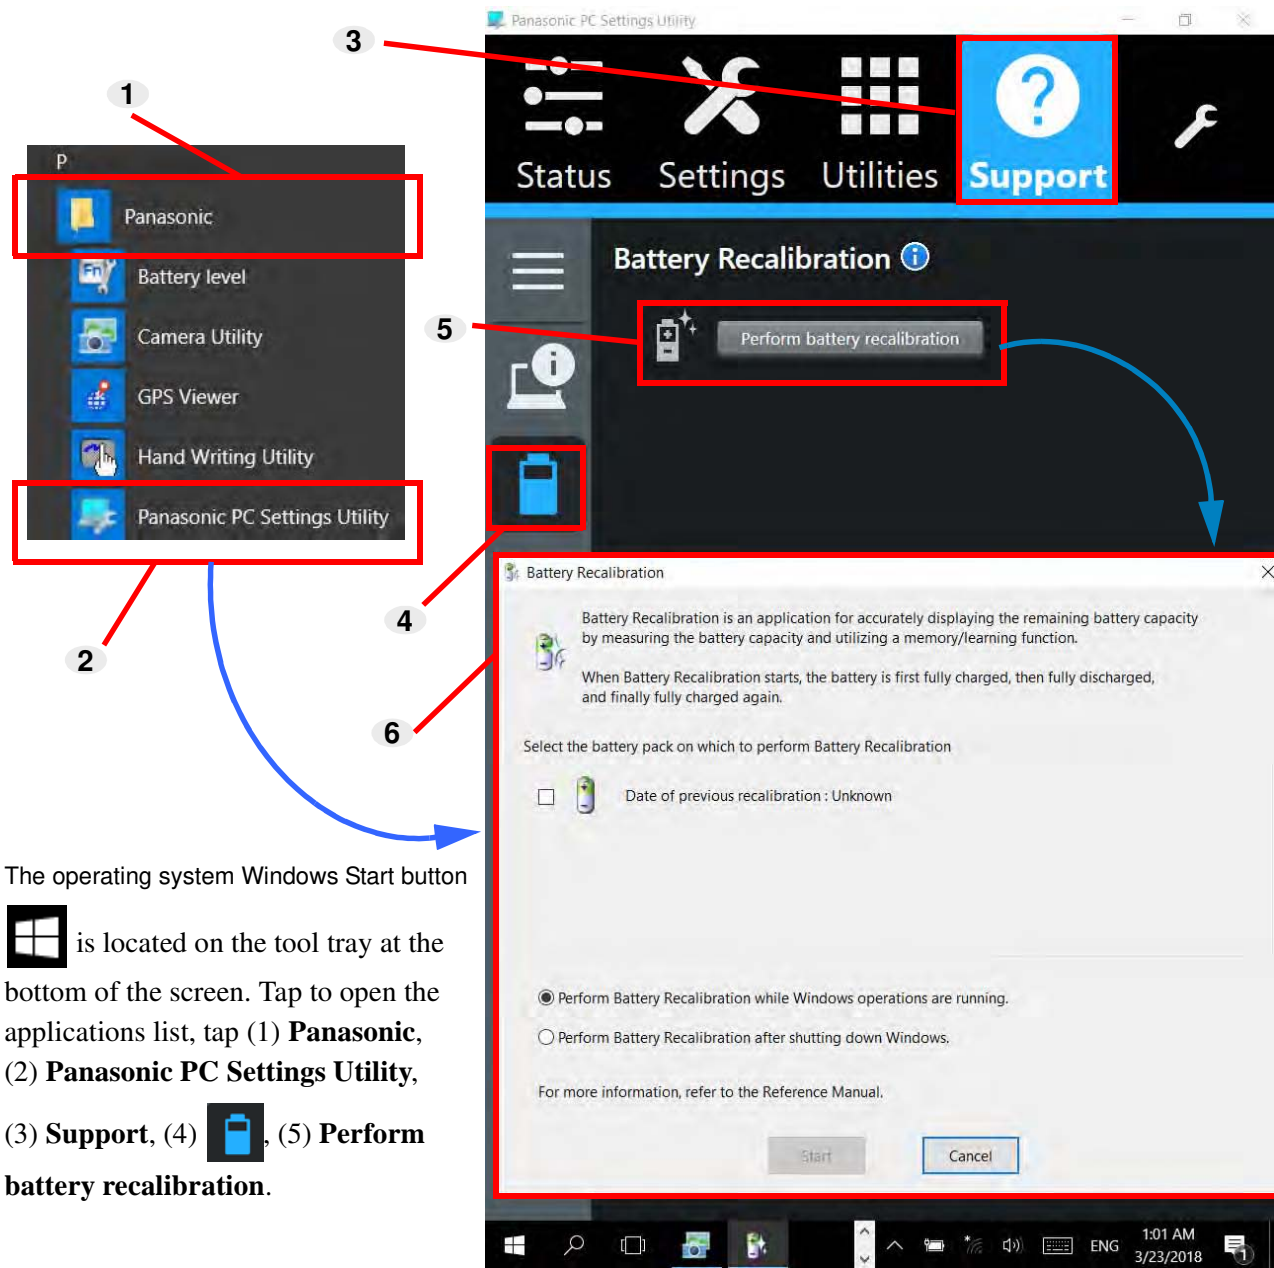

Figure 12-2: Dashboard (Panasonic PC Settings Utility) Battery Recalibration Settings.
3. To open the **Panasonic PC Settings Utility** (Figure 12-2) (shortcut: press the “A” button  on the side of the tablet):
- d. Tap the **Panasonic PC Settings Utility** button (this opens the operating system version of the Dashboard, Figure 12-2).